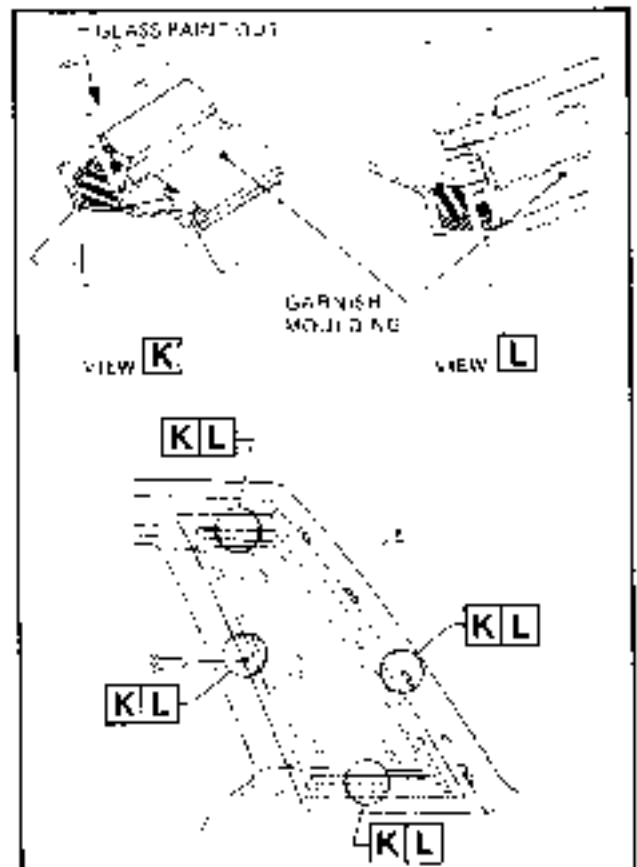

Figure 1A-30
13. Install screw attached quarter reveal moulding lower to bottom horizontal part of garnish moulding (refer Section AN-AN Fig. 1A-31).